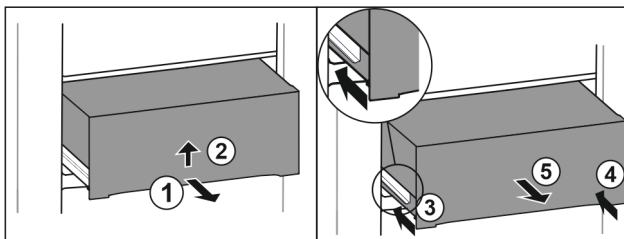

Fig. 35
- ▶ Pull out drawer half-way. Fig. 35 (1)
- ▶ Lift the drawer from the bottom. Fig. 35 (2)
- ▶ Insert left rail. Fig. 35 (3)
- ▶ Insert right rail. Fig. 35 (4)
- ▶ Remove drawer to the front. Fig. 35 (5)